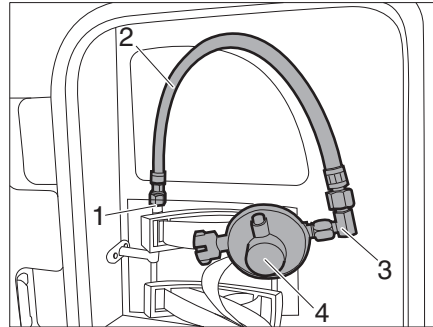

Fig. 33 Gas tube with gas pressure regulator
- Screw the elbow (Fig. 33,3) onto the gas tube (Fig. 33,2).
- Screw the gas pressure regulator (Fig. 33,4) onto the elbow.
- Screw the gas tube (Fig. 33,2) with the gas pressure regulator onto the connecting piece (Fig. 33,1).